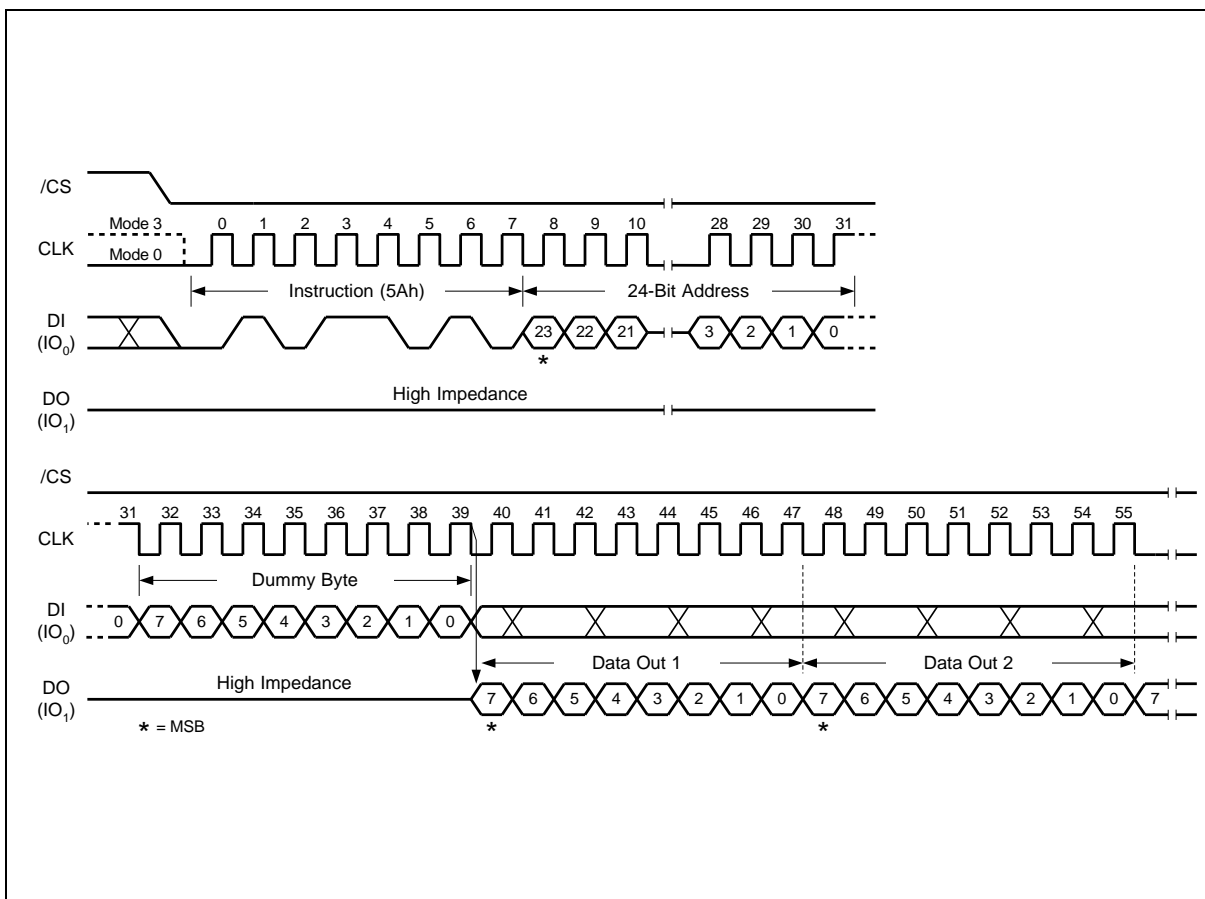

Figure 34. Read SFDP Register Instruction Sequence Diagram
The Read SFDP instruction is initiated by driving the /CS pin low and shifting the instruction code “5Ah” followed by a 24-bit address (A23-A0)(1) into the DI pin. Eight “dummy” clocks are also required before the SFDP register contents are shifted out on the falling edge of the 40th CLK with most significant bit (MSB) first as shown in figure 34. For SFDP register values and descriptions, please refer to the Winbond Application Note for SFDP Definition table.